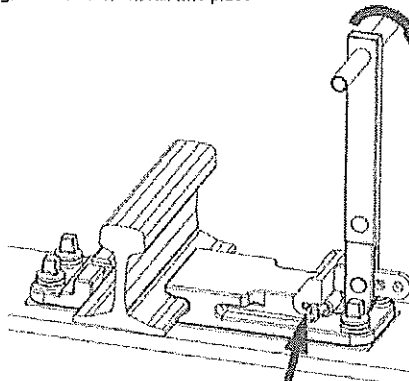

Fig. 23-Drive iFAST spring with installation tool into position
3. Attach the assembly tool to the slide chair and drive the iFAST spring to the stock rail until the end of the spring is in contact with the slide chair, Fig. 23.